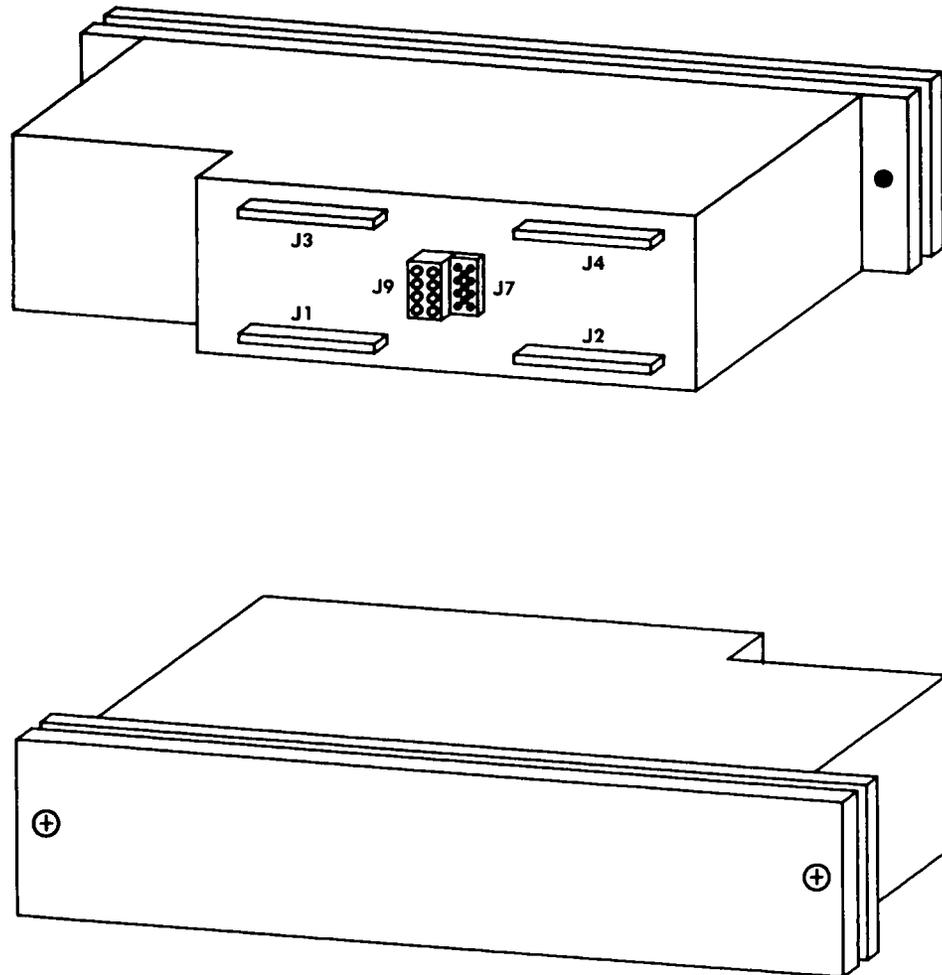

Fig. 26—Formatter
**8.10** The Kennedy formatter (Fig. 26) measures 483 mm (19 inches) wide, 390 mm (15.37 inches) deep, and 89 mm (3.5 inches) high and is mounted in the bottom of the SMDR cabinet (Fig. 17). The formatter is part of J59209AA-2, List 9, and can be ordered for replacement as follows: